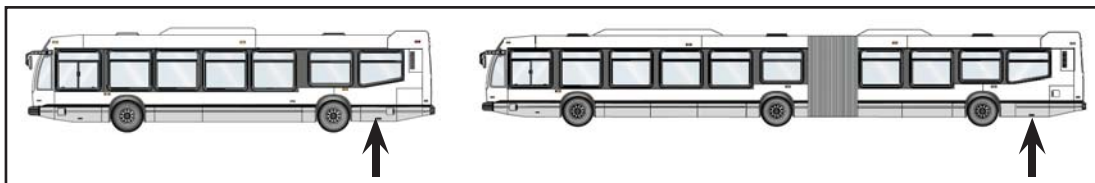

Figure 1 - Location of the Dustpan
- 1.3. Remove the dustpan under the battery compartment. See Figure 1.